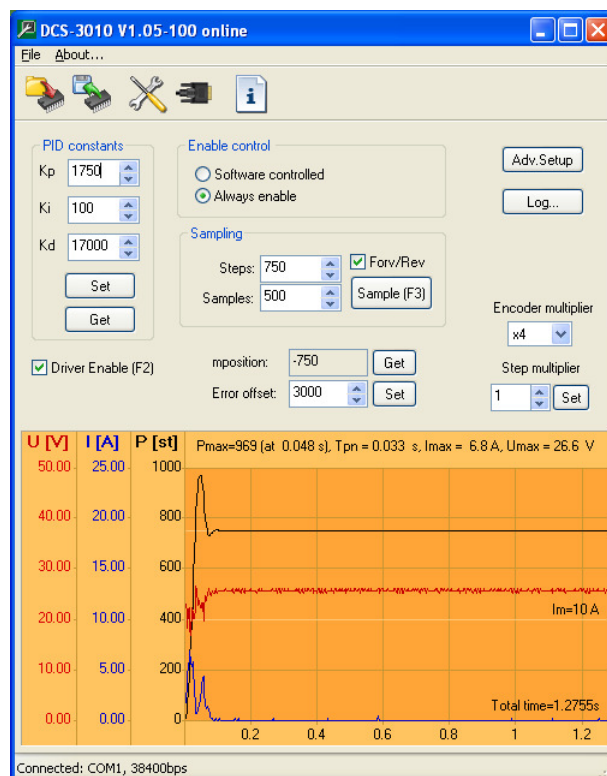

Figure 10.4
STEP 4: Final values of the PID constants and the response of the motor are shown in Figure 10.4.